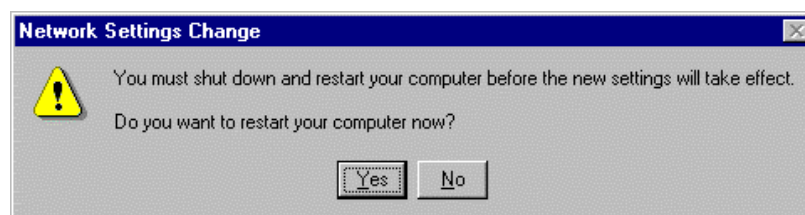

Fig. 8-29
- You are then prompted to restart your computer (Fig. 8-29).